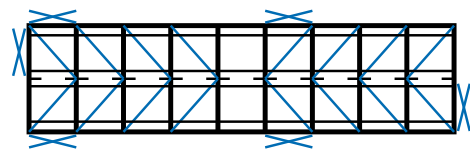

Figure 67
- Each portal frame must be braced to gable ends with brace direction opposing from the centre of the shed (Figure 67).